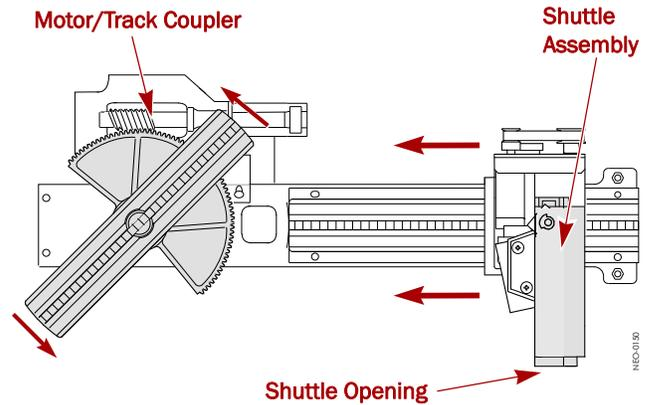

Figure 3. Top View of Shuttle Track Showing Movable Section
- By hand, turn the **motor/track coupler** until the track is at a 45° angle (Figure 3).